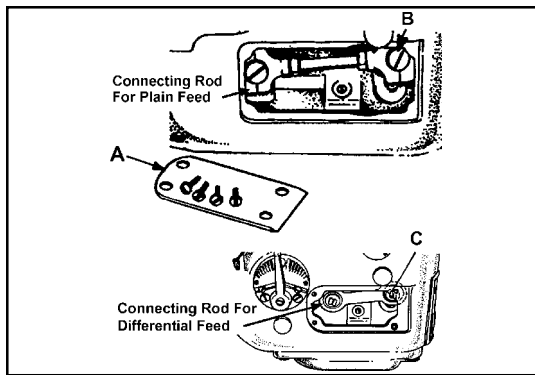

FIG. 8
If more or less looper avoid motion is required, remove cylinder side cover (A, fig. 8) located at the lower front left side. For plain feed use a screwdriver to loosen looper avoid link ball joint (B). For differential feed use Union Special wrench TT85 and loosen screw stud (C) Moving ball joint down in the lever slot increases the amount of looper avoid motion, moving it up acts the reverse. Retighten ball joint (B), or screw stud (C) securely.